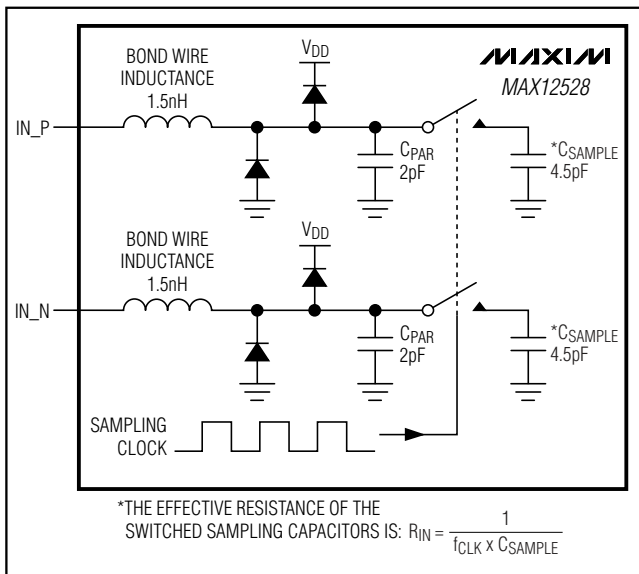
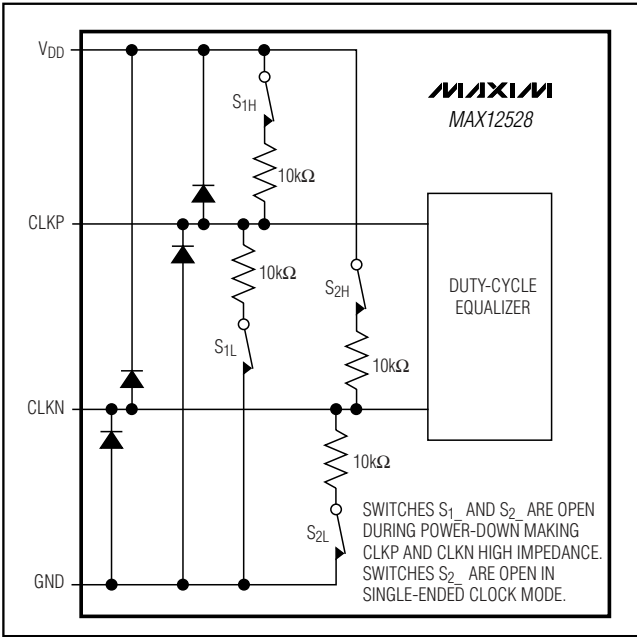

Figure 3. Internal T/H Circuit
Figure 4. Simplified Clock Input Circuit
Figure 3 displays a simplified functional diagram of the input T/H circuit. This input T/H circuit allows for high analog input frequencies of 175MHz and beyond and supports a $V_{DD} / 2$ common-mode input voltage.
The MAX12528 sampling clock controls the switched-capacitor input T/H architecture (Figure 3) allowing the analog input signals to be stored as charge on the sampling capacitors. These switches are closed (track mode) when the sampling clock is high and open (hold mode) when the sampling clock is low (Figure 4). The analog input signal source must be able to provide the dynamic currents necessary to charge and discharge the sampling capacitors. To avoid signal degradation, these capacitors must be charged to one-half LSB accuracy within one-half of a clock cycle. The analog input of the MAX12528 supports differential or single-ended input drive. For optimum performance with differential inputs, balance the input impedance of IN_P and IN_N and set the common-mode voltage to mid-supply ($V_{DD} / 2$). The MAX12528 provides the optimum common-mode voltage of $V_{DD} / 2$ through the COM output when operating in internal reference mode and buffered external reference mode. This COM output voltage can be used to bias the input network as shown in Figures 9, 10, and 11.
The MAX12528 accepts both differential and single-ended clock inputs with a wide 25% to 75% input clock duty cycle. For single-ended clock input operation, connect DIFFCLK/SECLK and CLKN to GND. Apply an external single-ended clock signal to CLKP. To reduce clock jitter, the external single-ended clock must have sharp falling edges. For differential clock input operation, connect DIFFCLK/SECLK to OV_{DD}. Apply an external differential clock signal to CLKP and CLKN. Consider the clock input as an analog input and route it away from any other analog inputs and digital signal lines. CLKP and CLKN enter high impedance when the MAX12528 is powered down (Figure 4).
- 1) INAP/B and INAN/B analog inputs are disconnected from the internal input amplifier (Figure 3).
- 6) CLKP and CLKN clock inputs enter a high-impedance state (Figure 4).